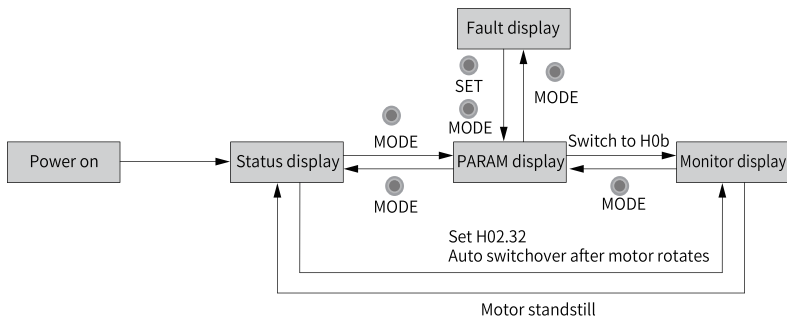

Figure 1-2 Switchover among different display modes
- Press MODE to switch among different display modes based on the conditions shown in "Figure 1-2" on page 15.